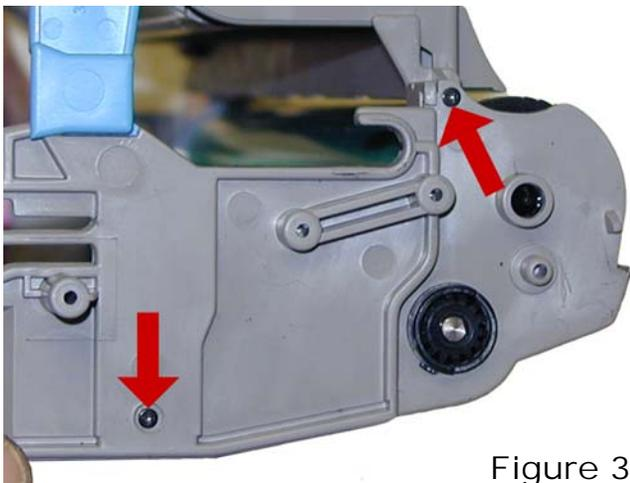

Figure 34
30) Clean and re-install the bottom cover and 4 screws. (2 each side). See **Figures 34 & 35**